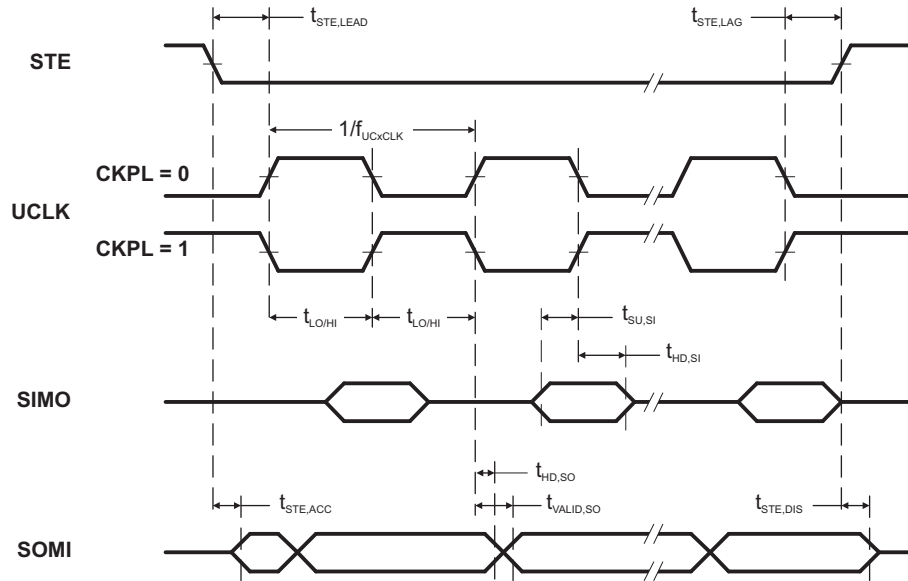
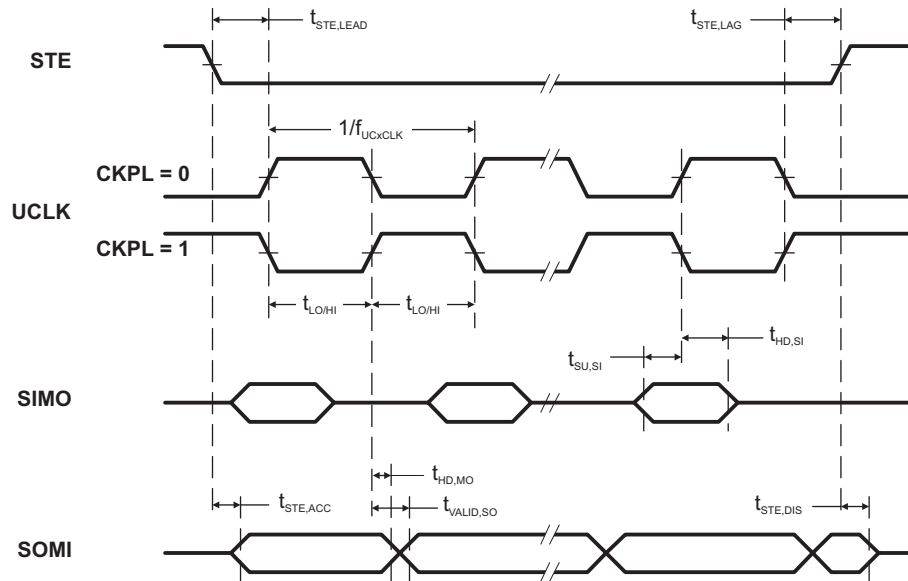

Figure 9. SPI Slave Mode, CKPH = 0
Figure 10. SPI Slave Mode, CKPH = 1
(see Note (1), Figure 9 and Figure 10)